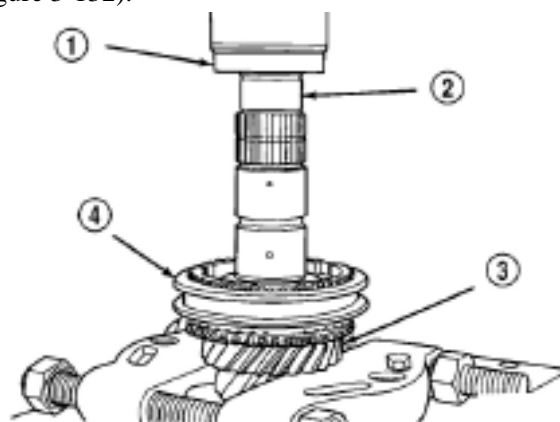

Figure 3-132 Disassembly of the third gear
(10) Mount the input shaft on the press and remove the 3-4 synchronizer and third gear with bearing dissociator (Figure 3-132).